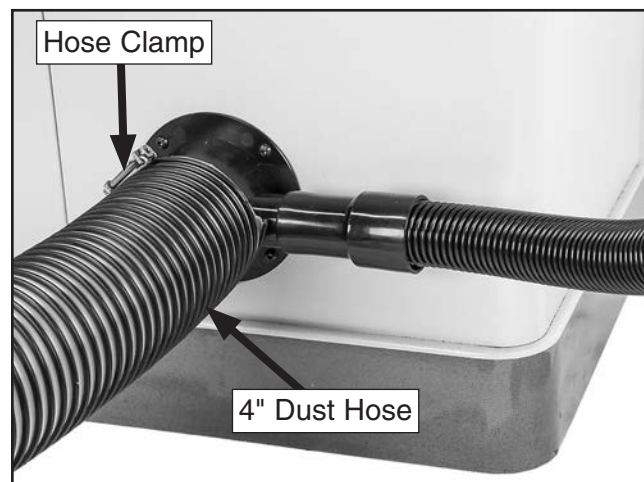

Figure 34. Dust hoses attached to port.
4. Fit 4" dust hose over dust port, as shown in **Figure 34**, and tightly secure it in place with a hose clamp.